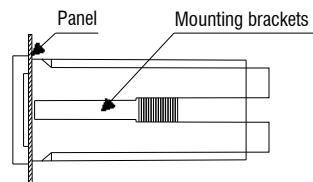

Figure 3
3. Replace the mounting bracket assembly onto the controller and secure the controller to the mounting panel. Refer to FIG 3.